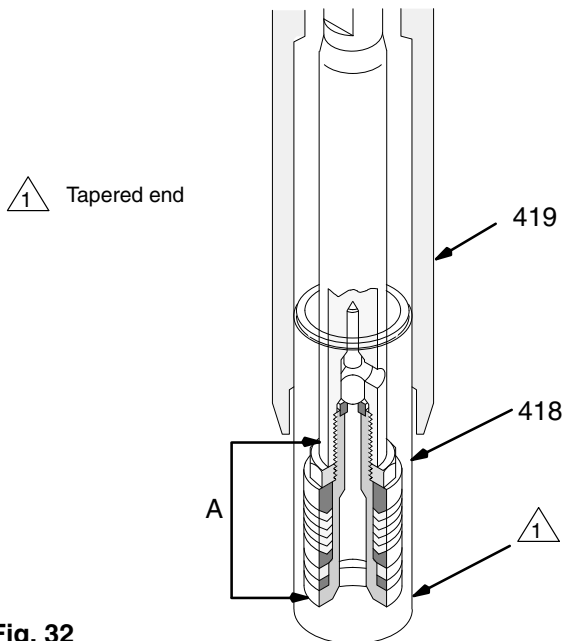

Fig. 32
NOTE: The tapered end of the sleeve is the bottom of it. Do not install it upside down. See Fig. 32.
- Coat the piston rod and packings with oil. Carefully slide the assembly (A) **INTO THE TOP OF THE SLEEVE (418)**. Then slide the sleeve/piston rod assembly **INTO THE BOTTOM OF THE CYLINDER (419)**. This procedure helps prevent damaging the packings during reassembly. See Fig. 32.